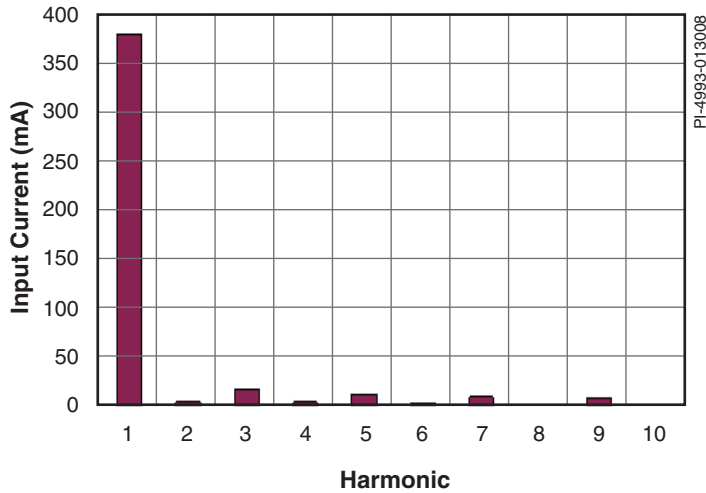

Figure 2. Harmonic Content Measured at 208 VAC.
- Meets harmonic content limits as specified in IEC 61000-3-2 for Class C Equipment (see Figure 2)